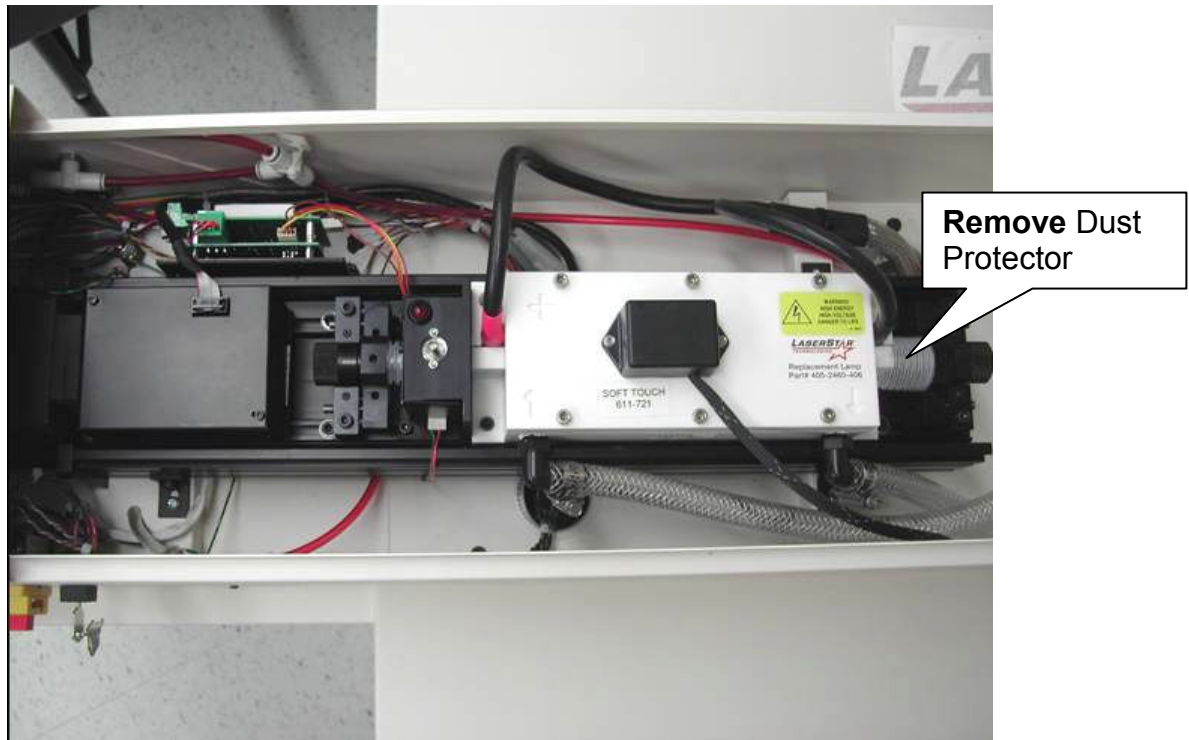

Figure 2
5. The Laser Rail orientation for service is shown in **(Figure 2)**.
6. Remove the Dust Protector shown in **(Figure 2)**. Note: Remember to replace the Dust Protector after service is complete.